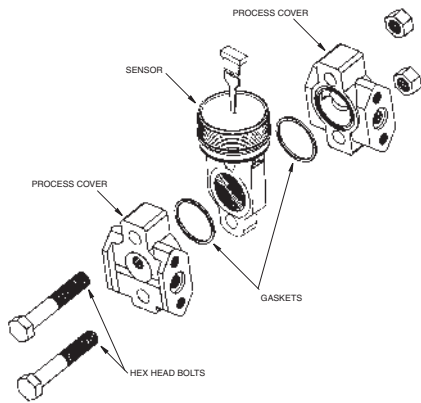

Figure 28. Replacing the Sensor Assembly
To replace the sensor assembly, refer to Figures 28 and 29 and proceed as follows:
- To rotate the process covers, refer to Figure 28 and proceed as follows: